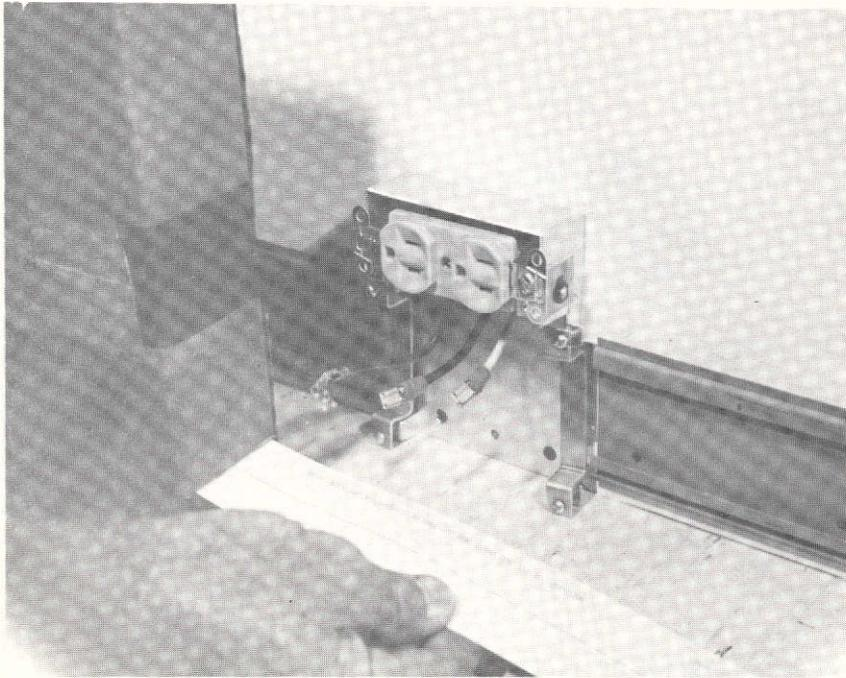

Figure 8. Dispensing of Flat Conductor Cable
1. Once the back channel is installed in place, the flat conductor cable is dispensed around the wall on the floor as in Figure 8.